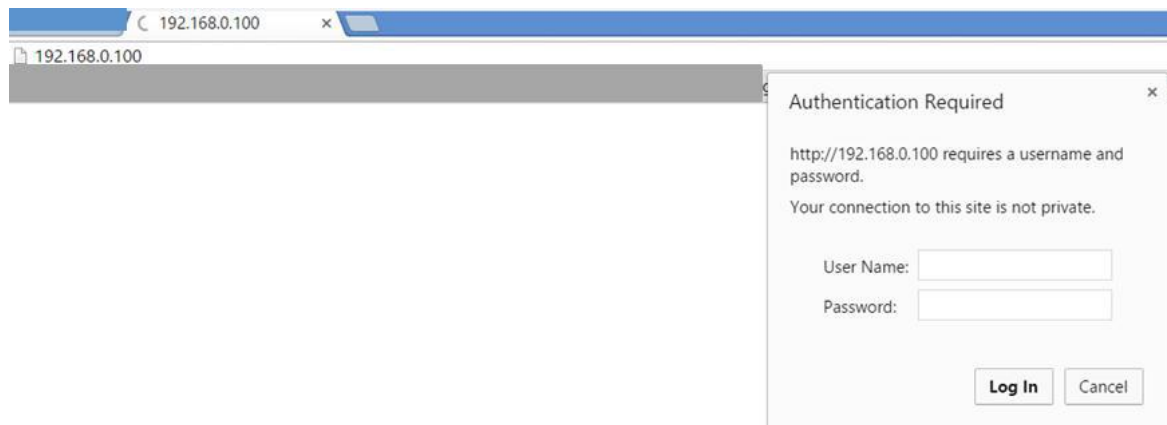

Figure 19 Front projector IP address
g. Type” <http://192.168.0.100>” as below Figure 19.